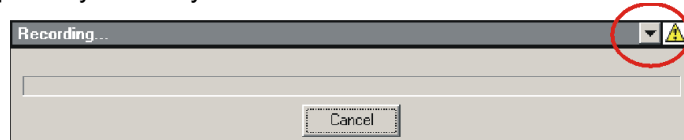

Fig. 2.7: SymPhoTime Pop-up-window being displayed during LSM data recording. To see the image during acquisition, press the button .
3. **SymPhoTime software: During LSM data recording** a window pops up (Fig. 2.7) which gives you access to the preview FLIM image. To see the image during acquisition, press the button . When scanning several frames all the **information** is summed up pixel per pixel and displayed. Please note that the information is just summed up for the display, the stored raw data still allows you to treat the data separately frame by frame.
6. **SymPhoTime – software:** Press “cancel” in the LSM data recording window (see Fig. 2.7) in order to **stop data acquisition**. The TCSPC data acquisition works completely independent and can be stopped at any time without losing already recorded data.